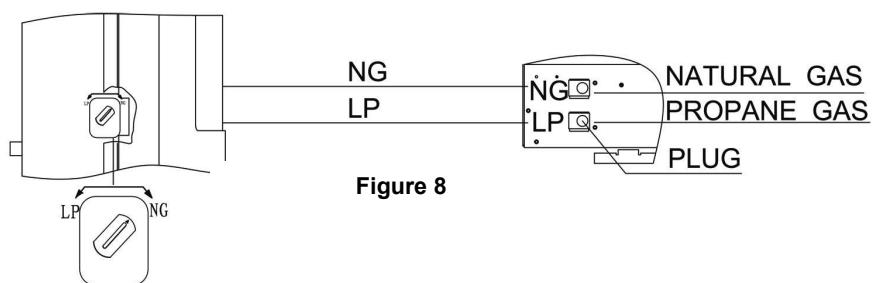

Figure 8
2. For NATURAL GAS, press knob using a flat screw driver with a blade with thickness of a quarter and turn knob clockwise until the knob locks into the NG position (see Figure 8). Selection valve must be locked in the NG position. Do not operate heater between locked positions!